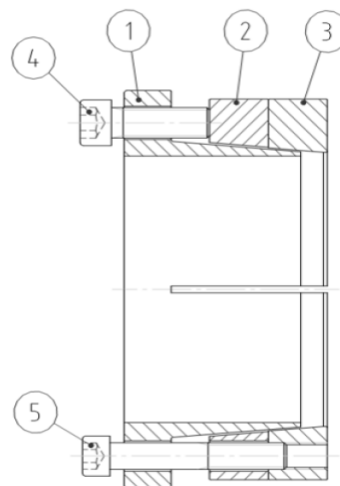

Fig. 4
4. Loosen all screws item [5] and release collar item [3] by re-tightening all push-off screws (see fig. 4) in a crosswise pattern, not exceeding  $\frac{1}{4}$  turns for several passes.